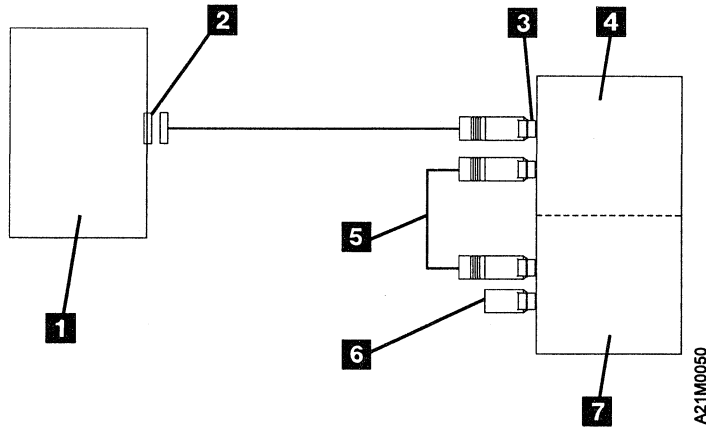
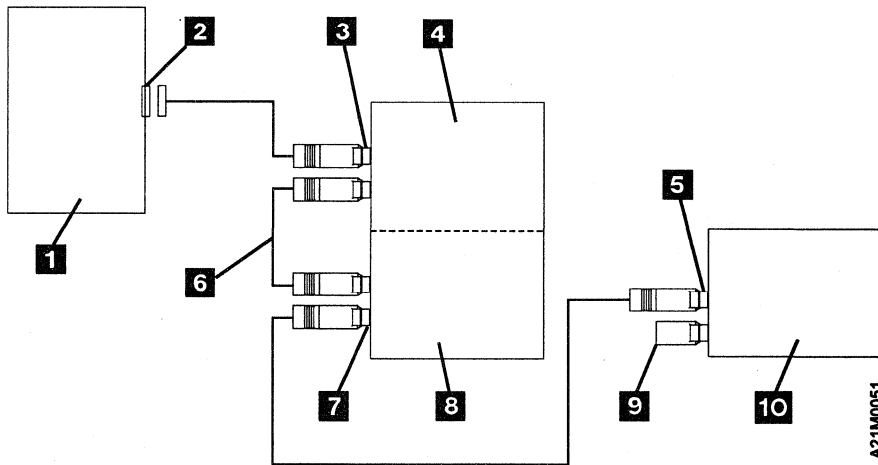

Figure 75. Example of Attaching One SCSI Device to the Host (Initiator)
Figure 76. Example of Attaching Multiple SCSI Devices to a Host (Initiator)
- \_\_\_ 7. If a SCSI bus jumper is installed, remove it. See item 5 in Figure 76 on page 112.
Figure 75 shows an example of a single 3570 Model C22 in Base Configuration attached to the host (initiator). Figure 76 shows an example of a single 3570 Model C22 in Base Configuration attached to the host (initiator) with multiple other SCSI devices.